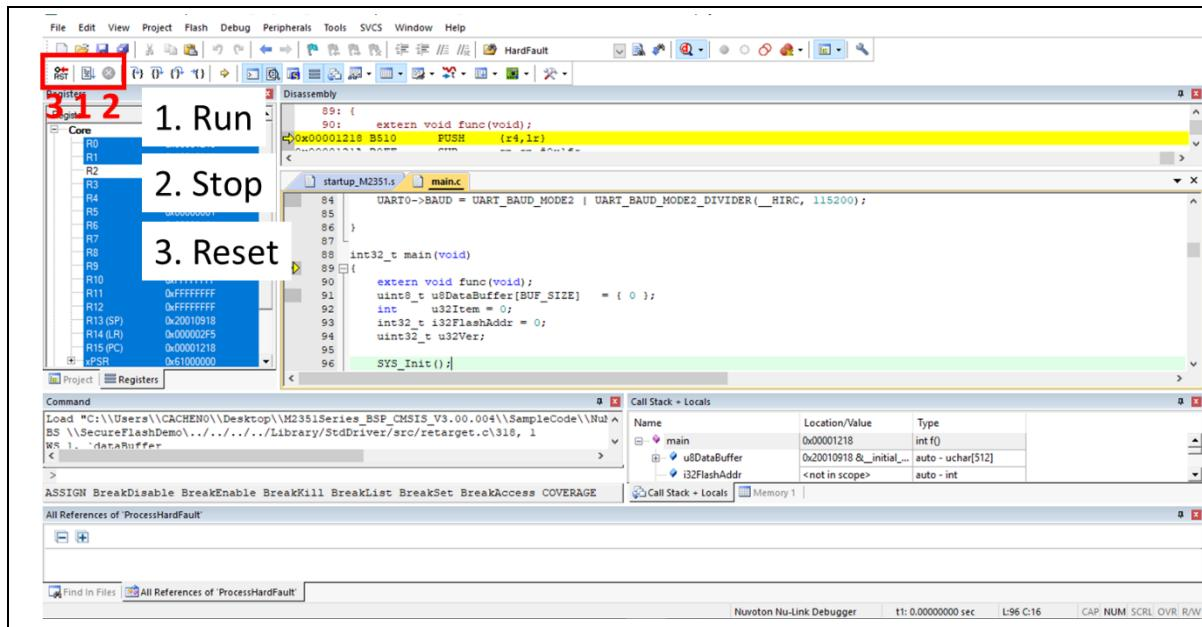
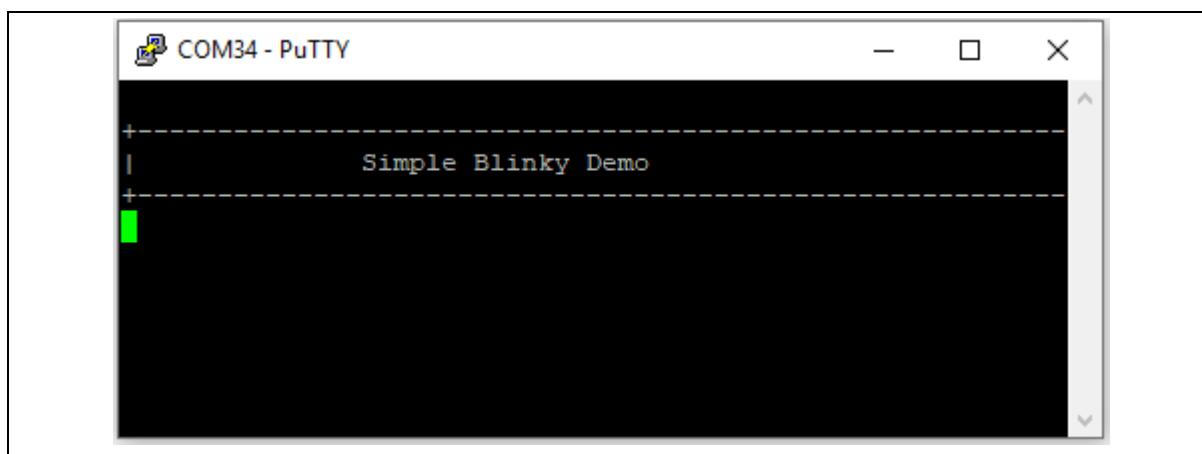

Figure 4-11 Keil MDK Debug Mode
Figure 4-12 Debug Message on Serial Port Terminal Windows
4. Figure 4-11 shows the debug mode under Keil MDK. Click “Run” and the debug message will be printed out as shown in Figure 4-12. User can debug the project under debug mode by checking source code, assembly language, peripherals’ registers, and setting breakpoint, step run, value monitor, etc.